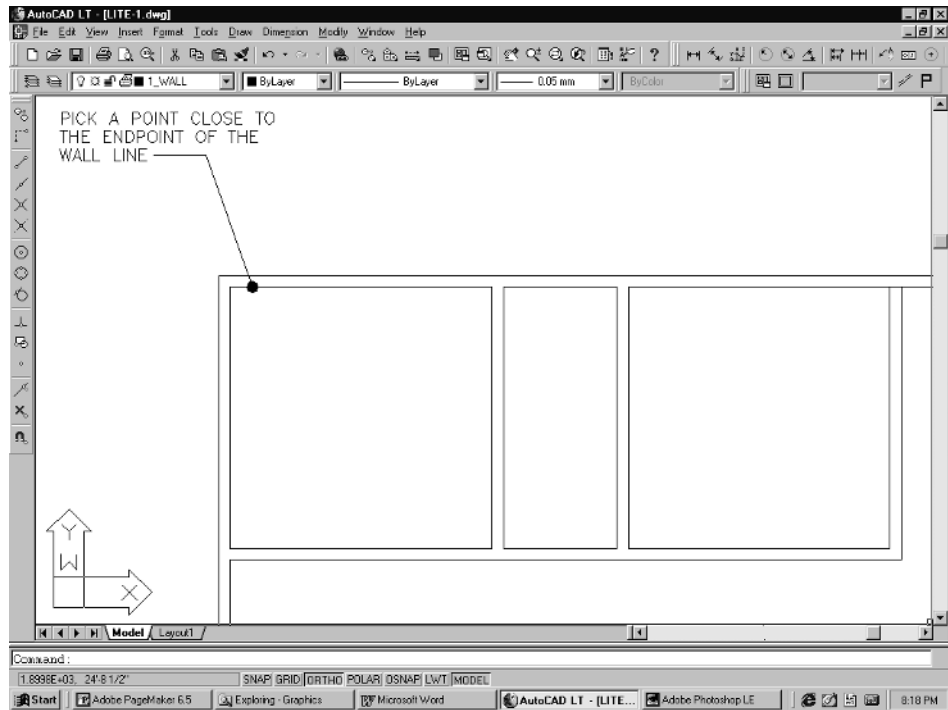

Figure 6-18
2. The next prompt will be *From point: endp of*. Pick a point close to the end point of a wall or window opening. See Figure 6-18.